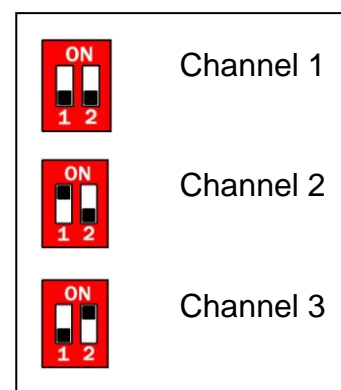

Fig. 15
12. There is a channel select switch on the circuit board and the remote control. The remote control must be set to the same channel (1, 2 or 3) as the robot to be able to control it. If you are playing with your friends, each must choose a different channel so that one will not interfere with the other units. (Fig. 15)